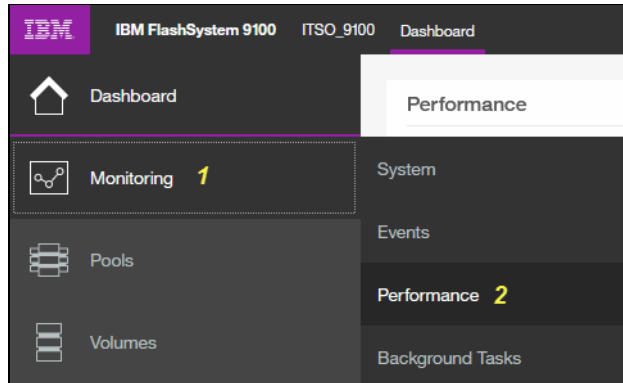

Figure 8-4 Selecting performance pane in the monitoring menu
The real-time statistics are available from the IBM FlashSystem 9100 GUI. Click **Monitoring (1)** → **Performance (2)** (as shown in Figure 8-4) to open the Performance Monitoring window.